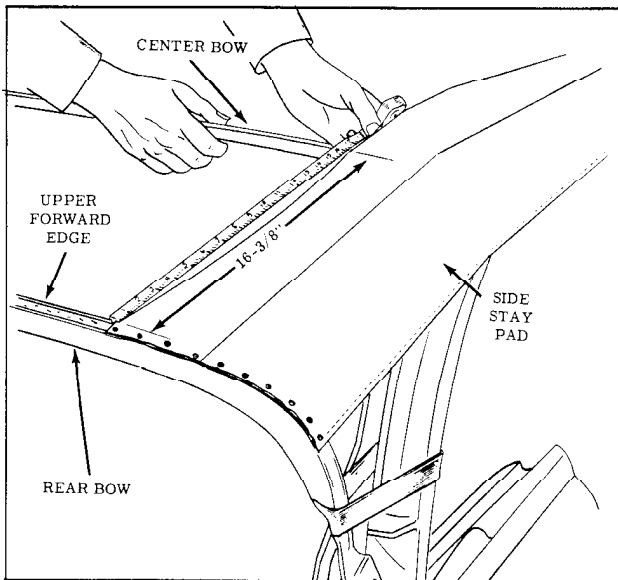

Fig. 17-29 Position of Rear Bow
- Trim selvage end of side stay pads just forward of rear rolled edge of rear roof bow. (Fig. 17-29)